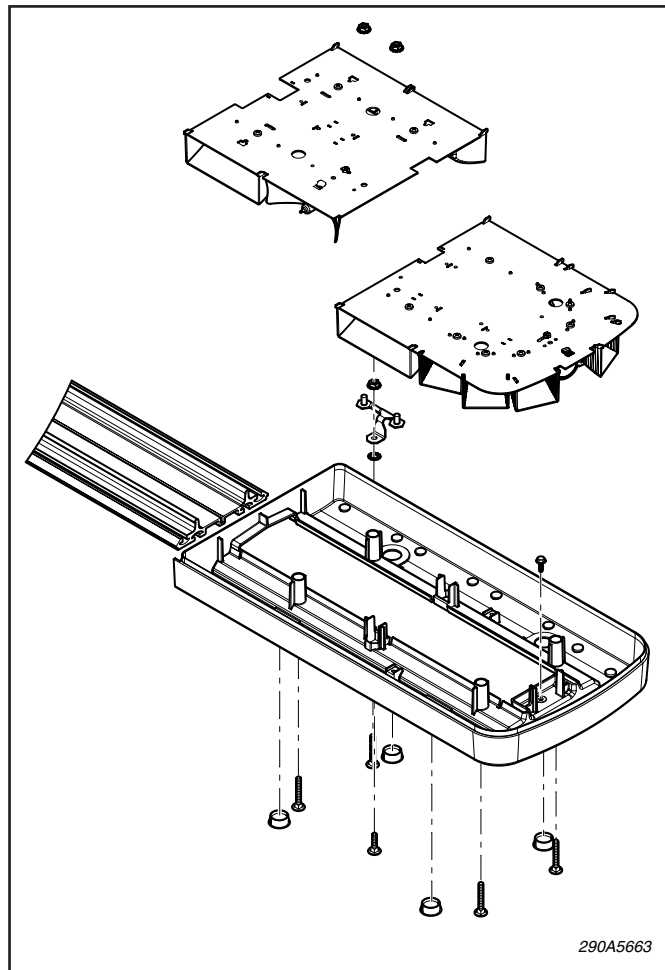

Figure 8.
I. *Base Replacement (see figure 8).*